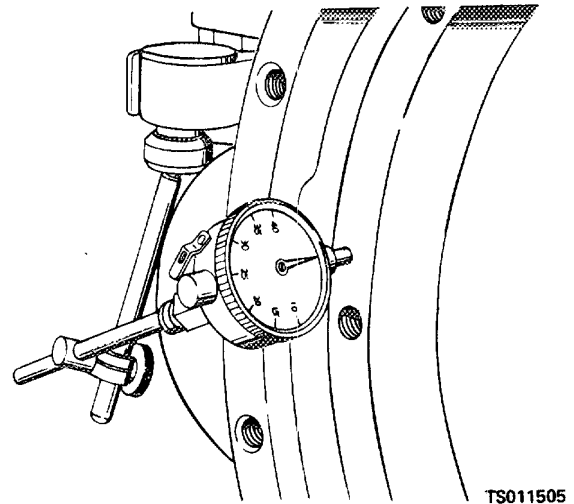

Figure 4-9. Checking flywheel runout.
(3) Check flywheel runout by mounting a dial indicator so that it indicates the flat vertical surface of the flywheel (fig. 4-9); rotate the crankshaft through one full revolution. Hold pressure against the flywheel to eliminate crankshaft end play. If flywheel runout exceeds 0.008 inch (0.0200 cm), remove the flywheel and clean the crankshaft flange and flywheel seat.